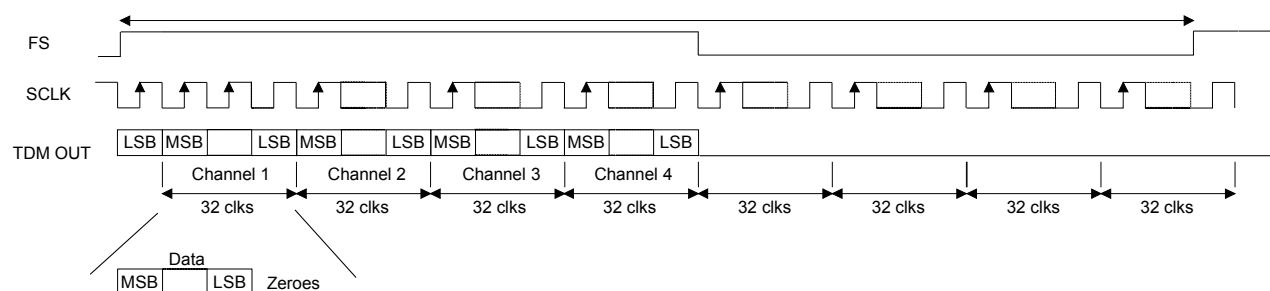

Figure 12. TDM Format
In TDM Mode, all four channels of audio data are serially clocked out during a single Frame Sync (FS) cycle, as shown in Figure 12. The rising edge of FS signifies the start of a new TDM frame cycle. Each channel slot occupies 32 SCLK cycles, with the data left justified and with MSB first. TDM output data should be latched on the rising edge of SCLK within time specified under “Serial Audio Interface - TDM Timing” section on page 16. The TDM data output port resides on the SDOUT1 pin. The TDM output pin is complementary TDM data. All SDOUT pins will remain active during TDM Mode. Refer to Section 4.11 “Optimizing Performance in TDM Mode” on page 29 for critical system design information.